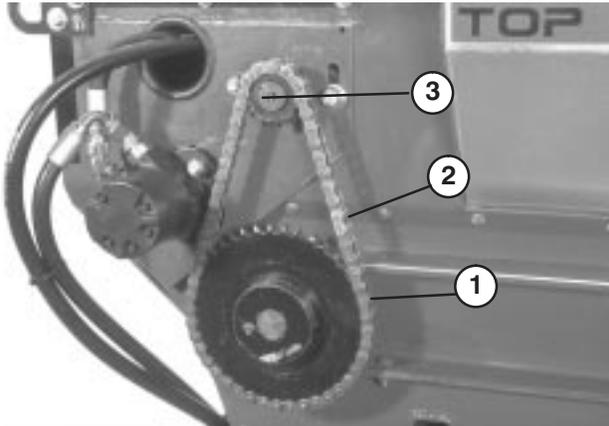

Figure 23
2. Remove master link from chain and remove chain from small sprocket (Fig. 23).